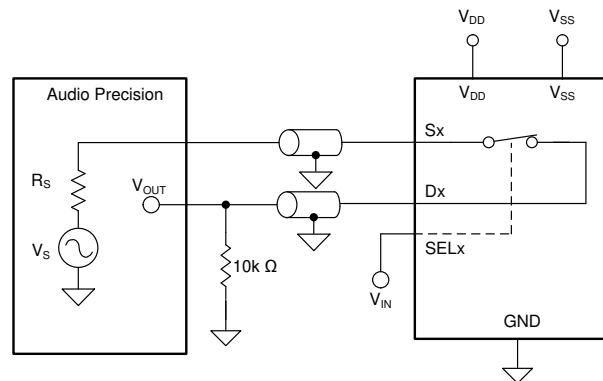

**Figure 8-9. Bandwidth Measurement Setup**
Bandwidth is defined as the range of frequencies that are attenuated by < 3 dB when the input is applied to the source pin (Sx) of an on-channel, and the output is measured at the drain pin (D) of the TMUX6121, TMUX6122, and TMUX6123. Figure 8-9 shows the setup used to measure bandwidth of the switch. Use Equation 4 to compute the attenuation.